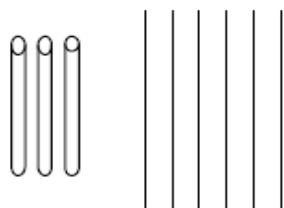

Fig.1.
- (1) Cut the steel pipe cm each by using a ruler and saw. (Fig.1)
- (2) Cut the iron wire cm each by using a ruler and a pair of pliers. (Fig.1)